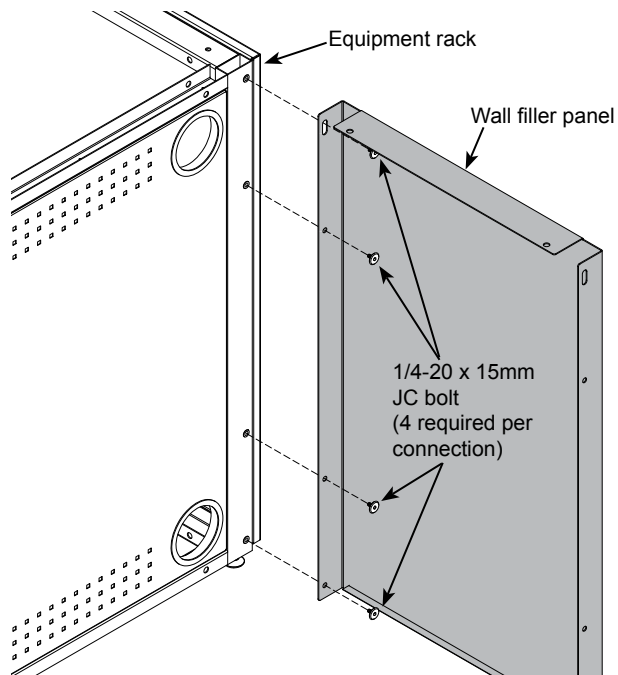

Figure 3A
1. Align the wall filler panel mounting holes as shown. **Figure 3A.**
2. Attach with (4) 1/4-20 x 15mm JC bolts. (Locknuts not required.)